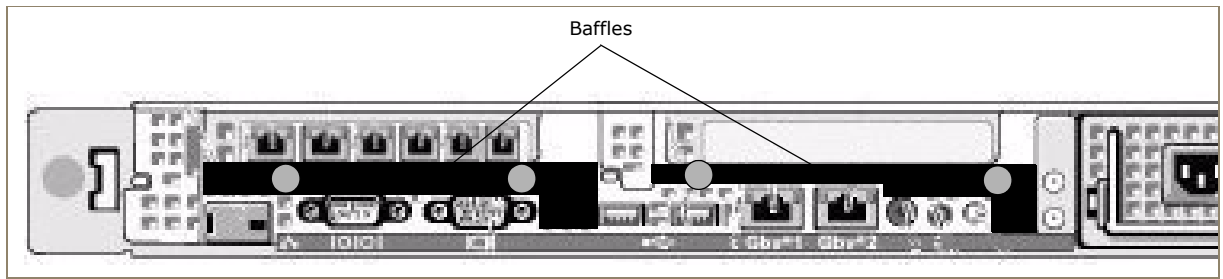

Figure 2-5 Back panel of model 1100E with baffles installed
- 7 Install baffles on the back panel (see Figure 2-5): Place the appropriate baffle over the ventilation holes and insert the fasteners.